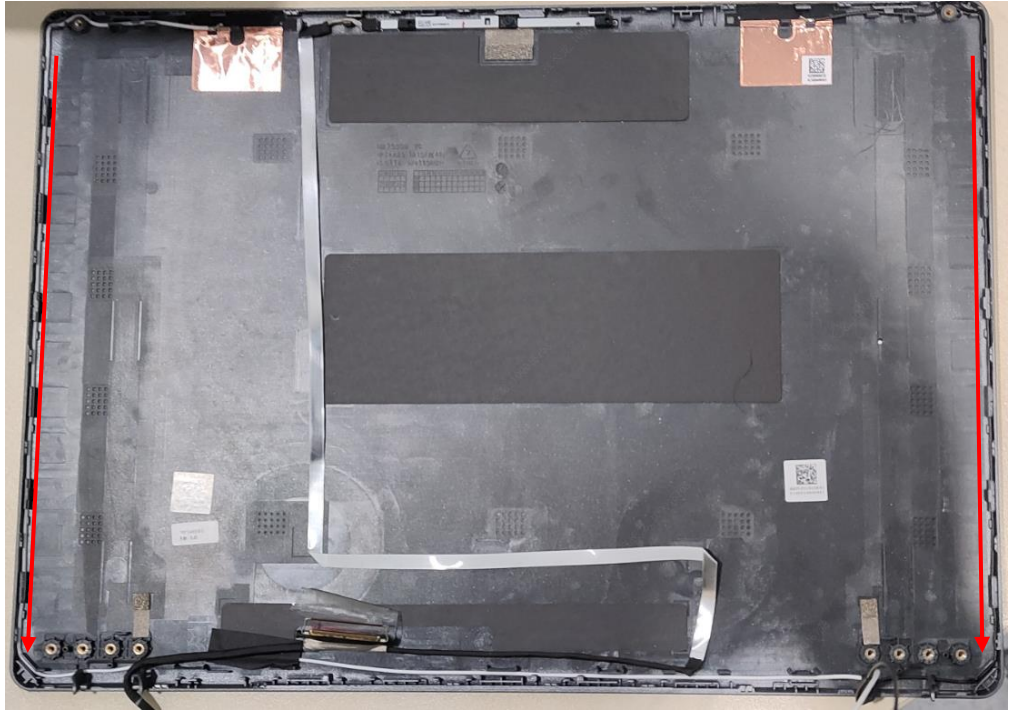

Figure 3-49. WLAN Antenna Removal
2. Remove eight (6) screws securing the LCD hinges to the LCD cover (Figure 3-49).
1. Remove the WLAN antennas cables from the cable guides on the LCD cover as shown in Figure 3-49.